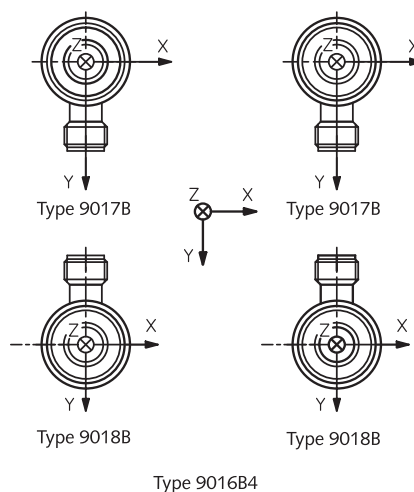

Fig. 2: Set consisting of four selected 3-component force sensors
The set of four selected sensors consists of 2 each sensors Type 9017B and 9018B selected and ground to the same thickness. They are used for mounting into multicomponent dynamometers and force plates (Fig. 2).
- Set of four matched 3-component force sensors ground together, two of each Type 9017B and 9018B (see Fig. 2)